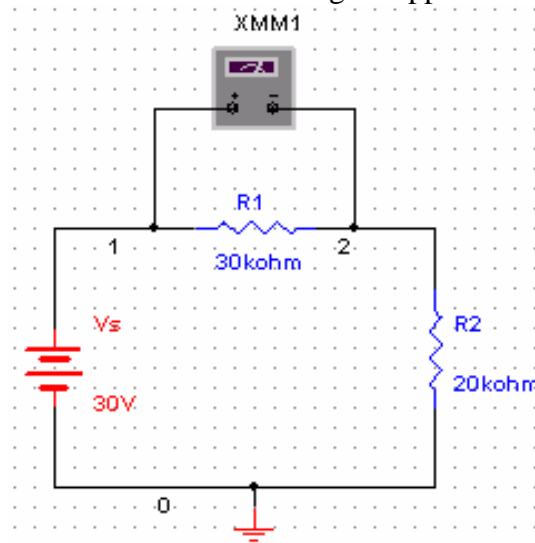

Figure 14: Multimeter connection for voltage measurement
- b. Click on **Multimeter** icon. Now click in the workspace to place the Multimeter. Drag it and place it near resistor R_1 as shown in Figure 14. Make a connection from '+' terminal of Multimeter to the left pin of R_1 and from '-' terminal to right pin of R_1 . Note that reversal of + and - terminals will give opposite readings.